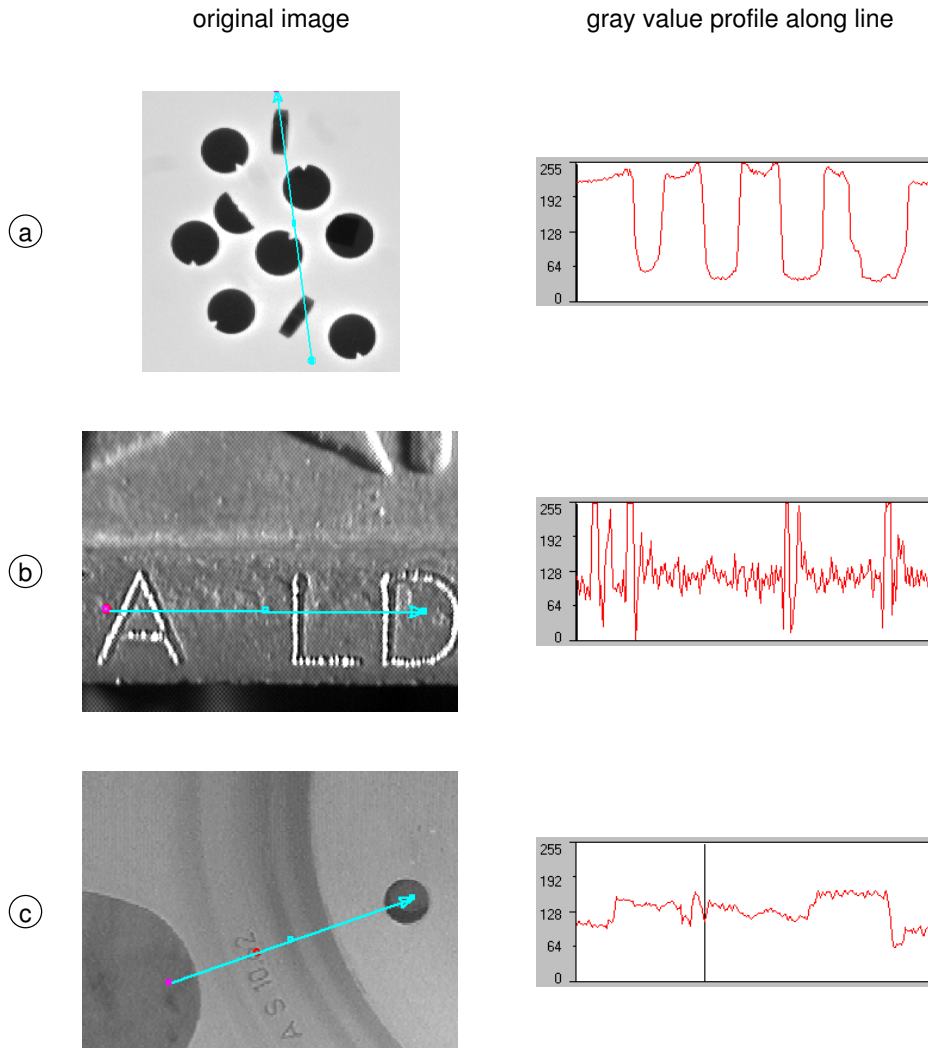

Figure 1.1: When to use which thresholding method: (a) global threshold, (b) automatic threshold for characters, (c) local threshold.
**Global Thresholding.** The simplest method is to classify pixels according to their gray value: In the example depicted in figure 1.1 a, blobs correspond to the dark parts (low gray values) on a light background (high gray values). In such a case, you can easily choose a threshold so that all pixels belonging to blobs lie below this threshold. This method can be called *global thresholding* as one threshold is applied globally, i.e., for all pixels. Global thresholding can also be applied using two thresholds, extracting either the gray values inside or outside the thresholds as the objects.
The automatic thresholding method as described above may fail when extracting thin characters as in figure 1.1 b, because there will not be a second dominating gray value. Therefore, there exists a second variant of this method which is optimized for extracting characters. This method only determines the dominating gray value corresponding to the background; relative to this gray value you can then specify the actual threshold.
**Local Thresholding.** Global thresholding is a very fast method; however, it will fail when pixels cannot be classified by their gray value alone, like for example in figure 1.1 c: Here, the gray value of characters to be extracted (indicated by the vertical line in the gray value